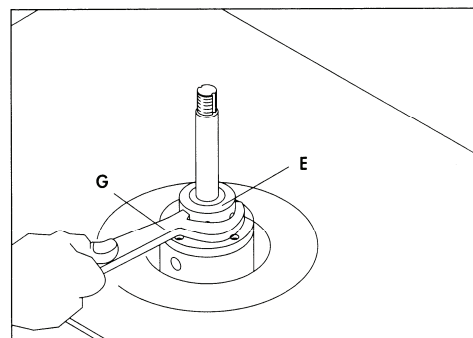

Fig. 3.13
7. Using the special spanner wrench (G) Fig.3.13 tighten spindle nut (E) as shown.